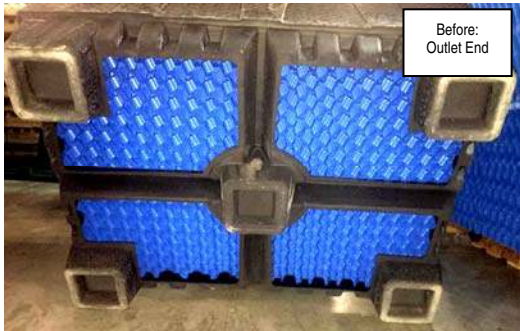

Figure 4.1
- 18. **For FAST® 0.625 & 0.75** Remove ~6" of the outlet end rib on the underside of the liner as shown in *Figures 4.1 & 4.2* on page 4. The 0.5 feet will be facing the outside of the liner while the 0.625 & 0.75 feet will be facing inward.